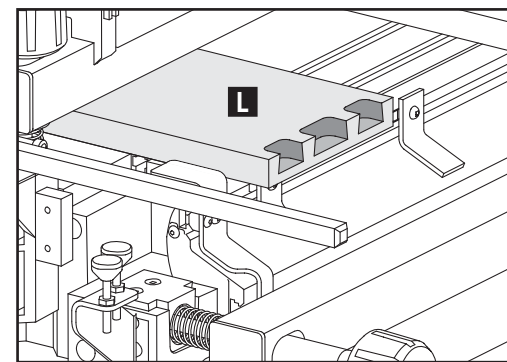

Fig. E10
**NOTE:** Move router slowly from left to right, taking small cuts and multiple passes. Your final cut should resemble Fig. E10.
14. Remove pinboard (L) Fig. E10.